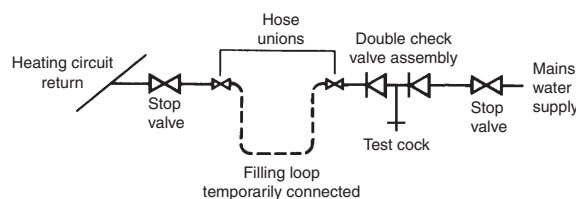

Fig. 7
3.8 FILLING THE CENTRAL HEATING SYSTEM - Fig. 7
Provision must be made for filling the system. This is done by the use of a filling loop. See Fig. 7.
Filling of the system must be carried out in a manner approved by the local Water Undertaking. Where allowed, the system may be filled via a temporary connection as shown in Fig. 7. After filling, always disconnect the flexible hose of the filling loop.